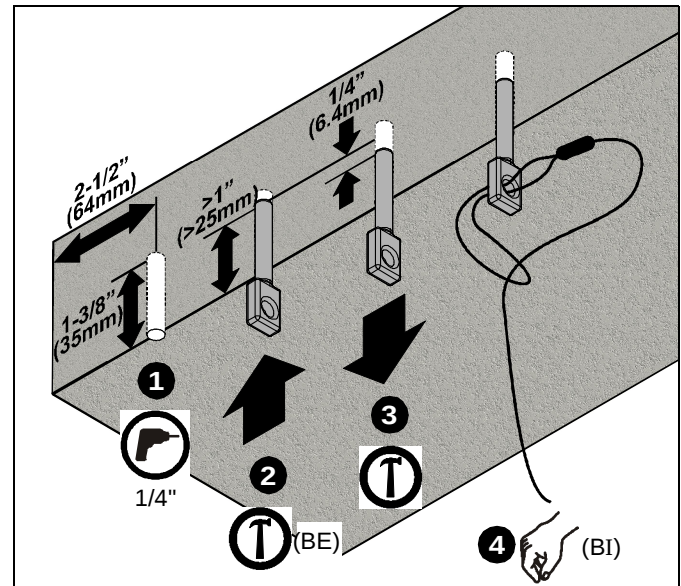

Figure 12
1. Drill 1/4" diameter x 1-1/2" deep hole at each marked cable anchor support location (See Figure 12). Ensure hole is at least 2-1/2" from nearest concrete edge. Remove debris from hole.
2. Tap anchor (BE) into each hole until the anchor head is seated in the hole. (See Figure 12)
3. Using claw portion of hammer, set each anchor (BE) by pulling it out of hole approximately 1/4" (6.4mm). (See Figure 12)
4. Insert portion of manufactured *loop* on cable (BI) through hole in anchor (BE). Insert end of cable (BI) through loop. Repeat for 3 remaining support locations. (See Figure 12)